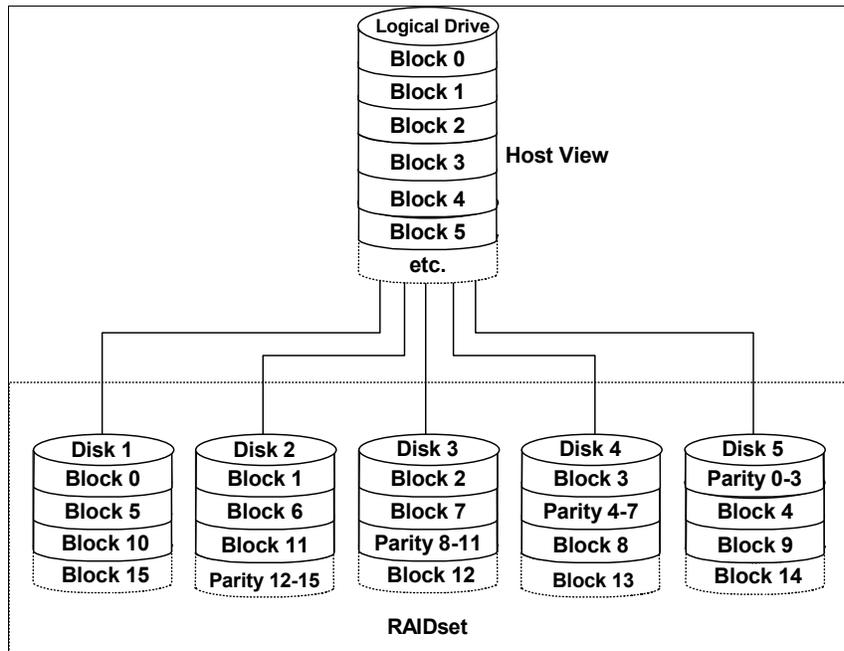

Figure 4-18 RAID-5
- ▶ RAID-5: High availability and fewer writes than reads (Figure 4-18)